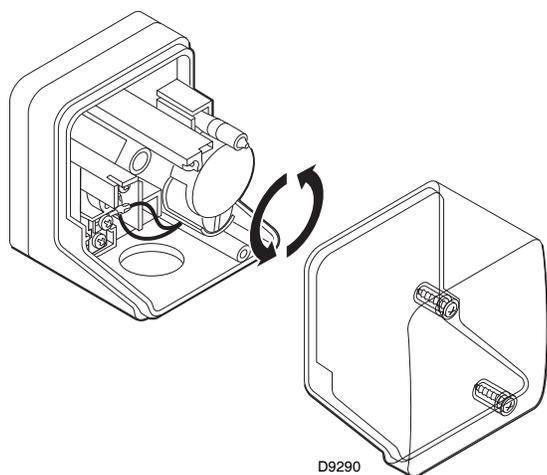

Fig. 33
- Adjust the minimum gas pressure switch (Fig. 33) to the start of the scale.